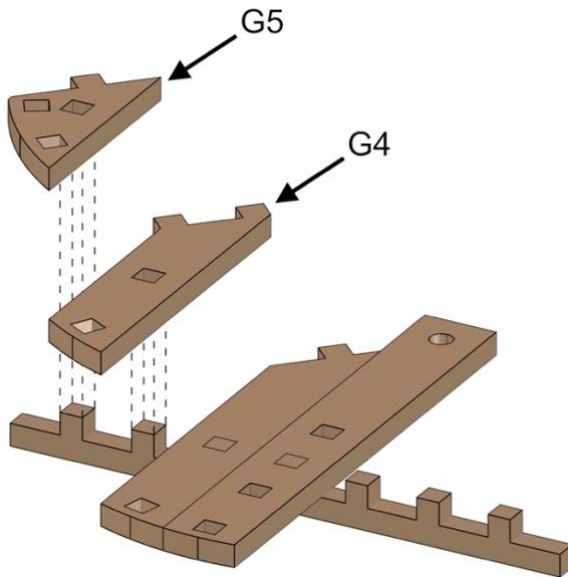

Fig. 35
- Align parts exactly as shown in *Fig. 35*.